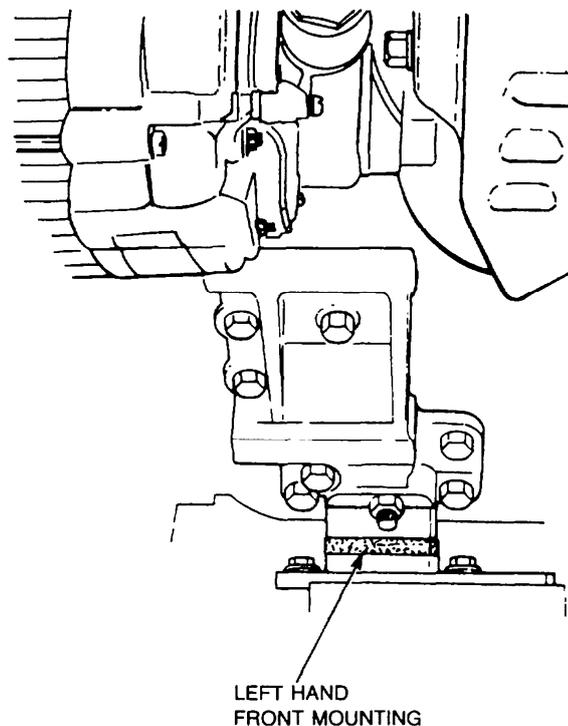

Figure 3 Engine Front Mounting (Left)
19. Remove the engine front mounting as follows (Figure 3):